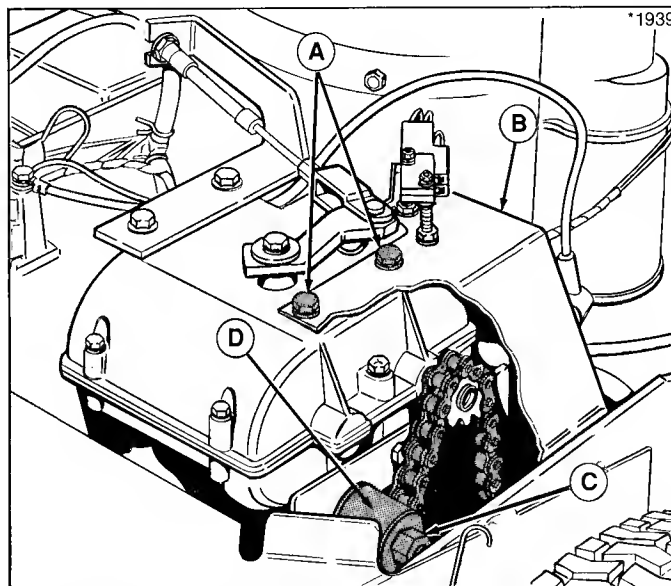

Figure 44. Chain Adjustment
1. Remove the cover (B, figure 44) by removing two screws (A).
2. Loosen the locknut (C) which holds the spacer (D) in slot.